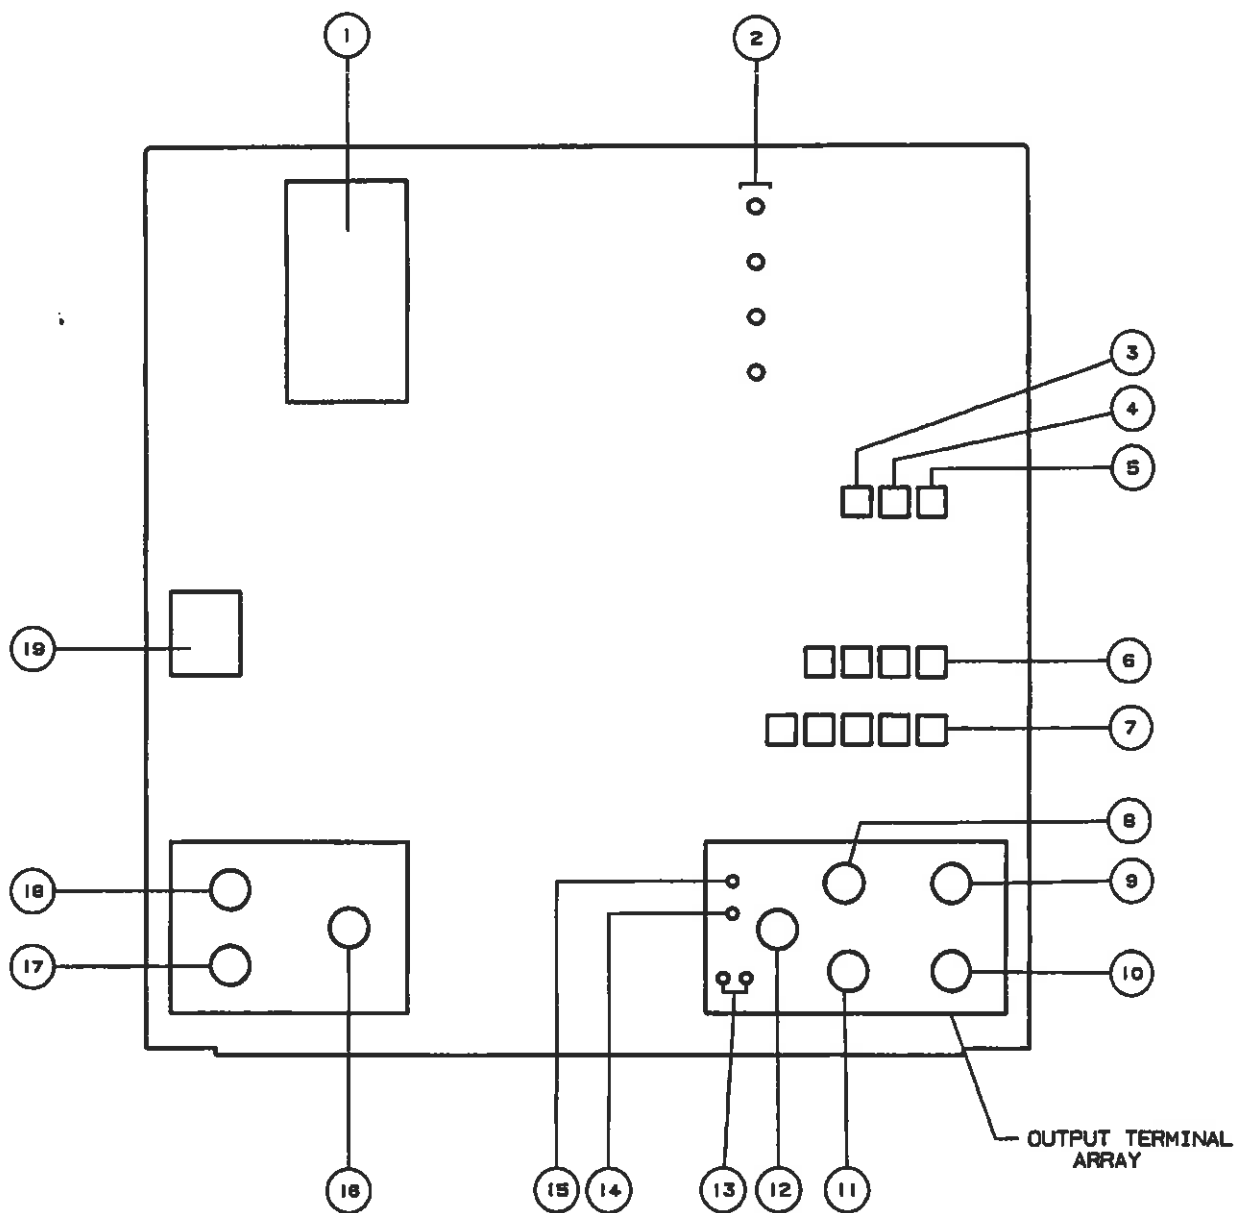

Figure 3-1 Model G33 Front-Panel Controls and Connectors
2. Turn the G33 POWER switch OFF. See Section 3.3.1, Item 19, and Figure 3-1.